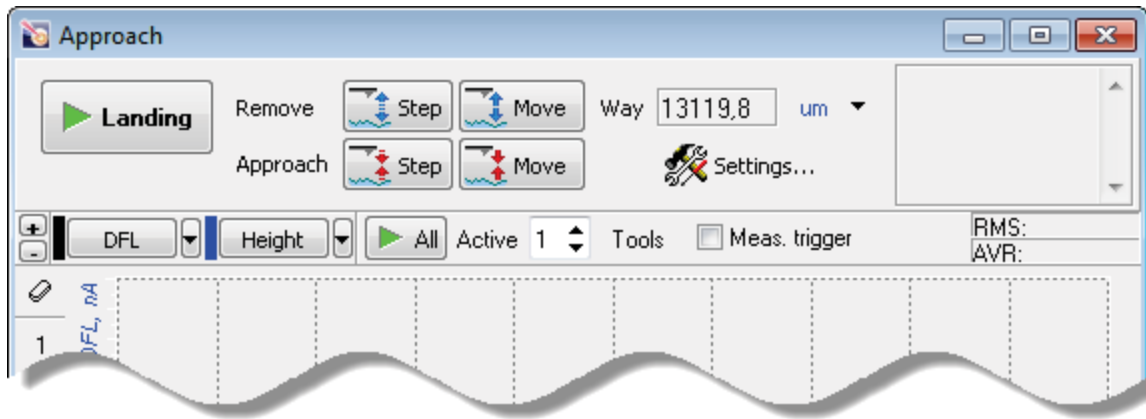

Fig. 8-29. **Approach** window
2. Open the **Approach** window by clicking the  button. To prevent damage of the probe tip by the sample surface when removing the measuring head, retract the sample from the probe by clicking the  button for several times (Fig. 8-29).